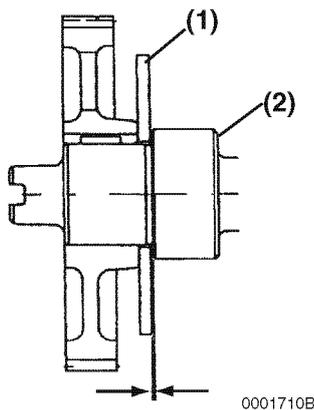

Figure 6-47
- **Method B:** Use a feeler gauge to measure the clearance between the thrust plate (**Figure 6-47, (1)**) and front camshaft bearing (**Figure 6-47, (2)**). Record the measurement. See *Thrust Bearing* on page 6-8 for the service limit.